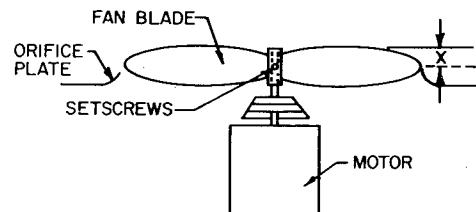

Figure 4—Required Condenser Fan Position
5. Check for correct position of condenser fan blade in fan orifice plate. See Figure 4 for setting.